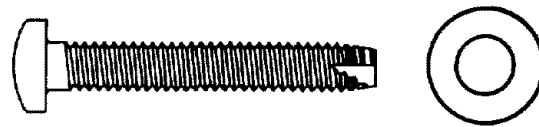

Fig. 78 - Mounting Screw and Washer
4. Put a *washer* on each of the *mounting screws*. (Figure 78)